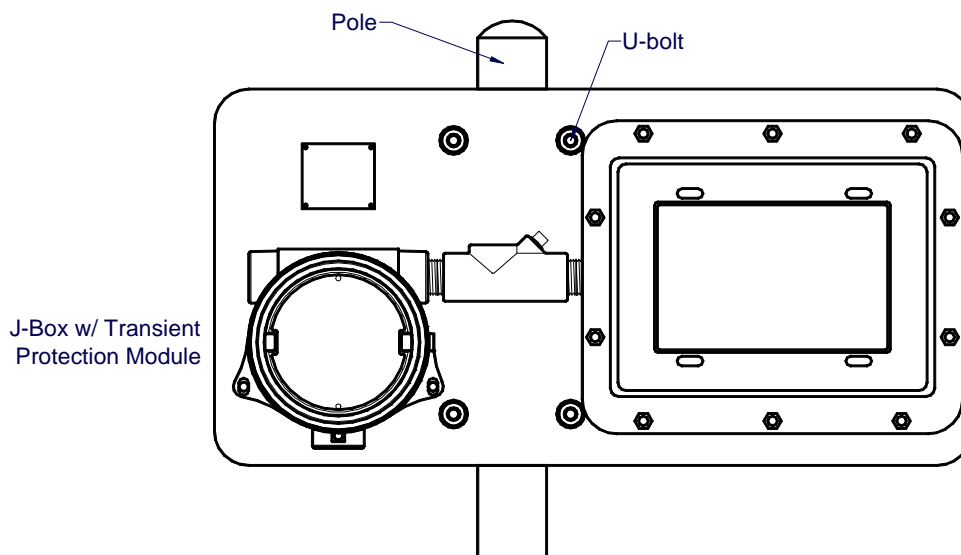

Figure 20 N7 Controller Assembly w/Mounting Plate
4. If the unit comes with the optional mounting plate and a Condulet, attach the mounting plate assembly to a pole with two U-Bolts secured through the $\frac{7}{16}$ " rectangle holes of the mounting plate base (Figure 20).